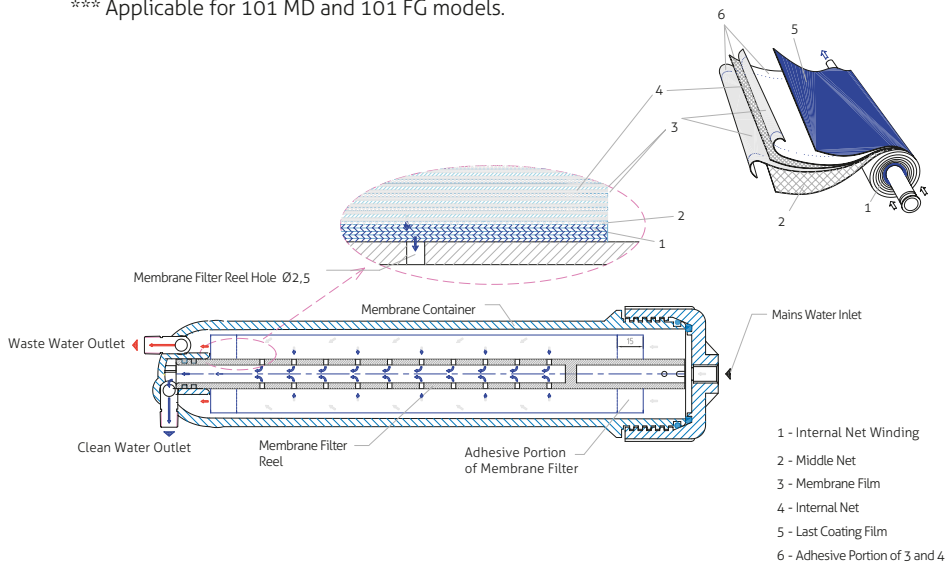

Figure 3. Membrane structure
**Membrane Filter (349004Z)** is the place where the reverse osmosis occurs. A long film made of a semi-permeable material is wrapped onto a reel in two layers. These two layers are merged together with a separator between the edges of this film with two layers and it is closed to water passage. It is like a closed long narrow bag except its end wrapped on the reel with rowed holes that is on the end which allows clean water output only. This double layer film is wrapped onto a reel. Through the separator film placed between the windings, dirty water reaches all surfaces of this bag, clean water enters the bag under pressure and taken from the outlet holes. While dirty water passes by the film surfaces with a flow called cross-flow, a part of water passes through the internal part of the film as clean water (Figure 3).